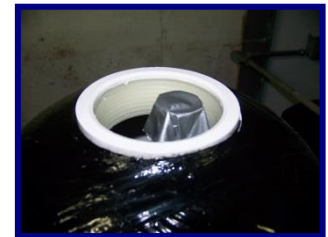

Figure 8: How to Block Distributer Tube
- g. Cover the exposed end of the distributor riser(s) to make sure no resin gets inside. Covering up the riser(s) with duct tape is one option, shown in Figure 8.